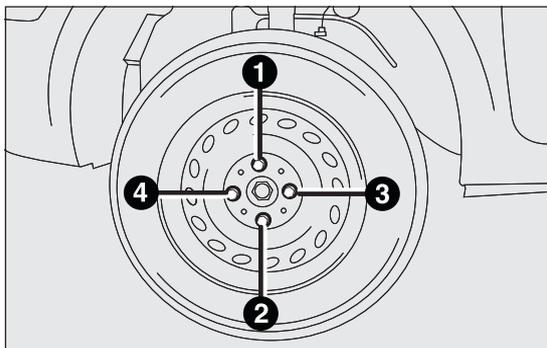

fig. 102
- ❑ fasten the bolts completely, working in a criss-cross fashion as shown in fig. 102.
- using the wrench provided, fully tighten the bolts in the sequence shown in fig. 102;